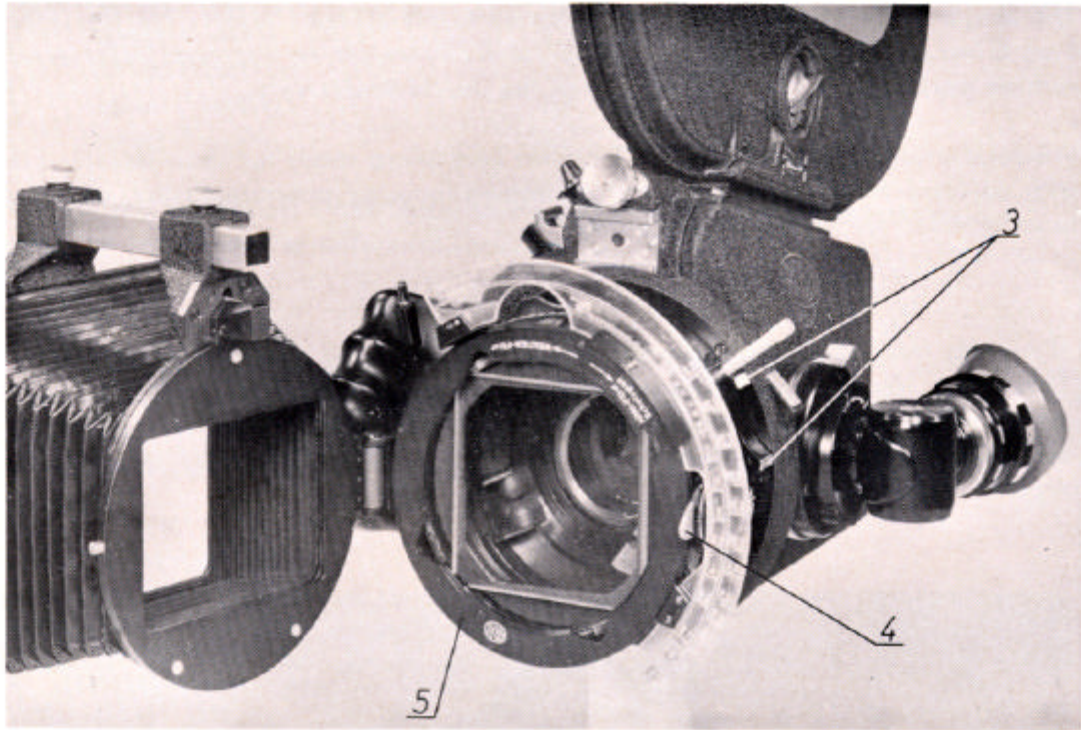
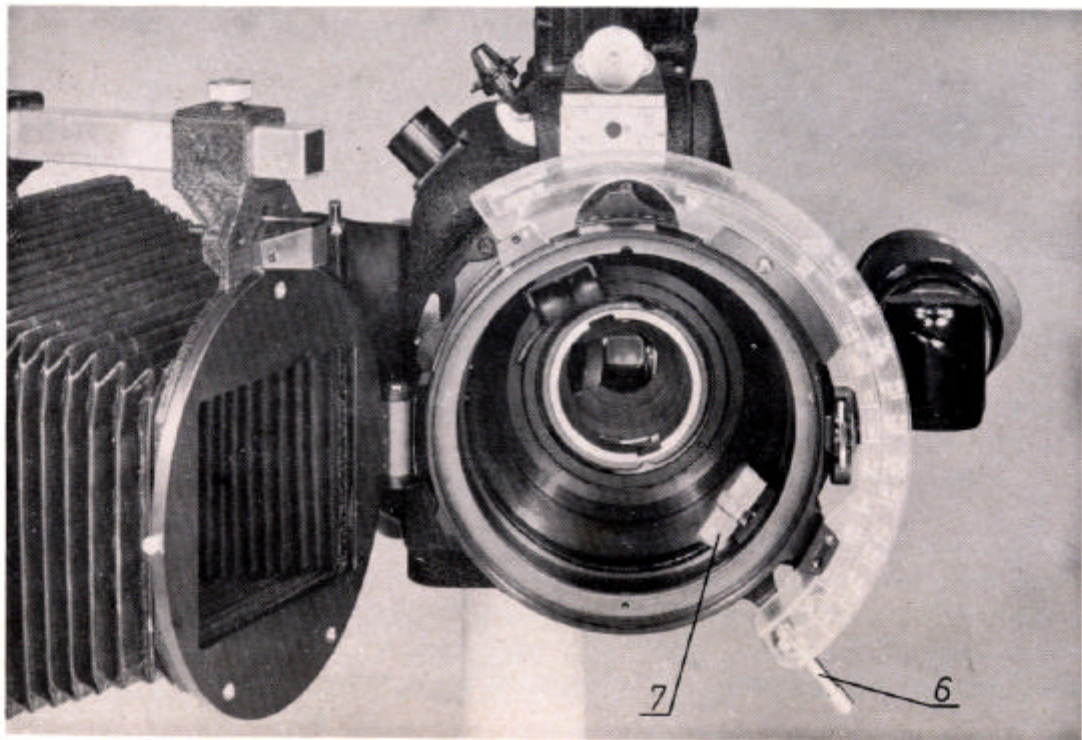

Fig. 3
Fig. 4
V. Insert the filter holder (Fig. 3/5) and close the front door (as for zoom lenses).
II. Turn the locking ring (Fig. 3/3) to give a firm seating, loosen the closure of the front door (Fig. 3/4), open the hinged door and remove the filter holder (Fig. 3/5). Set focusing lever at ∞ , and swing out diaphragm driver (Fig. 4/7).